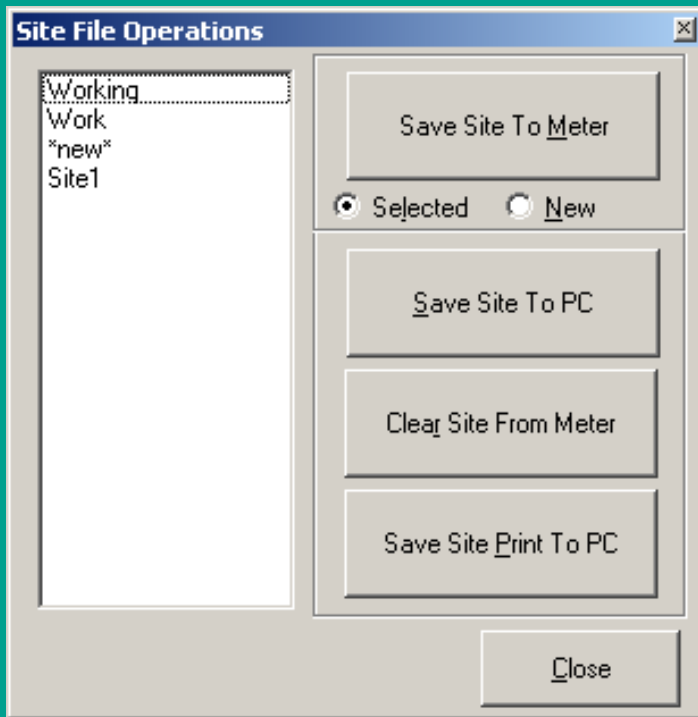

Figure 31: Site file operations window
To access site files, click on the *site files* button in the *properties* window. The site file operations window (shown in figure 31) opens.
1. Highlight the desired site in the left pane. (see figure 31.)
1. Highlight the site in the left pane. (see figure 31.)